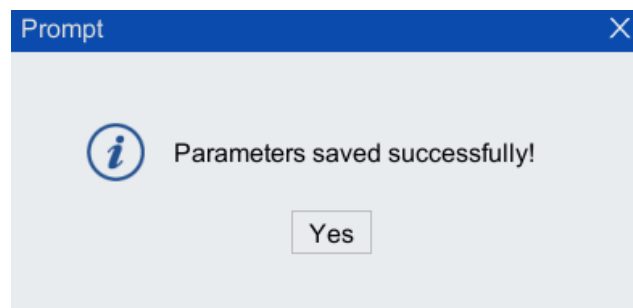

Figure 10-24 Save successful prompt interface
Step8.Click <Yes> in the pop-up [Prompt] interface, the parameters are saved successfully. As shown in Figure 10-24.